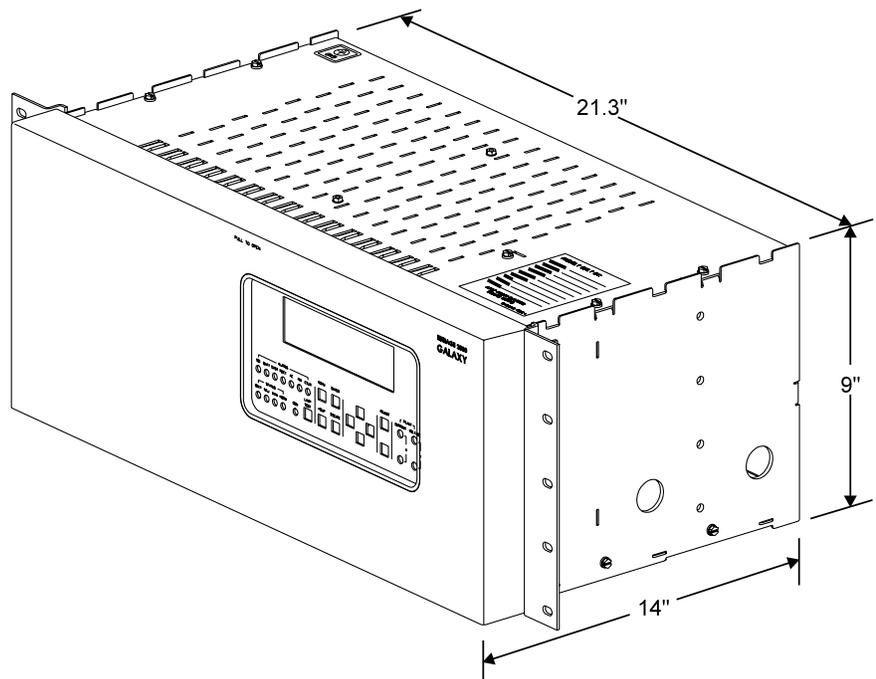

Figure 1-1: Galaxy SC Controller
Figure 1-1: Galaxy SC Controller	1 - 1
This product manual (Select Code 167-790-060) describes the Tyco Electronics Galaxy SC Controller, J85501F-1. Although the J85501F-1 is available in both rear-access (SC) and front-access (SCF) models, this manual is a user's guide for the rear access controller (SC) **only**. Figure 1-1 is an illustration of the rear-access Galaxy SC Controller.